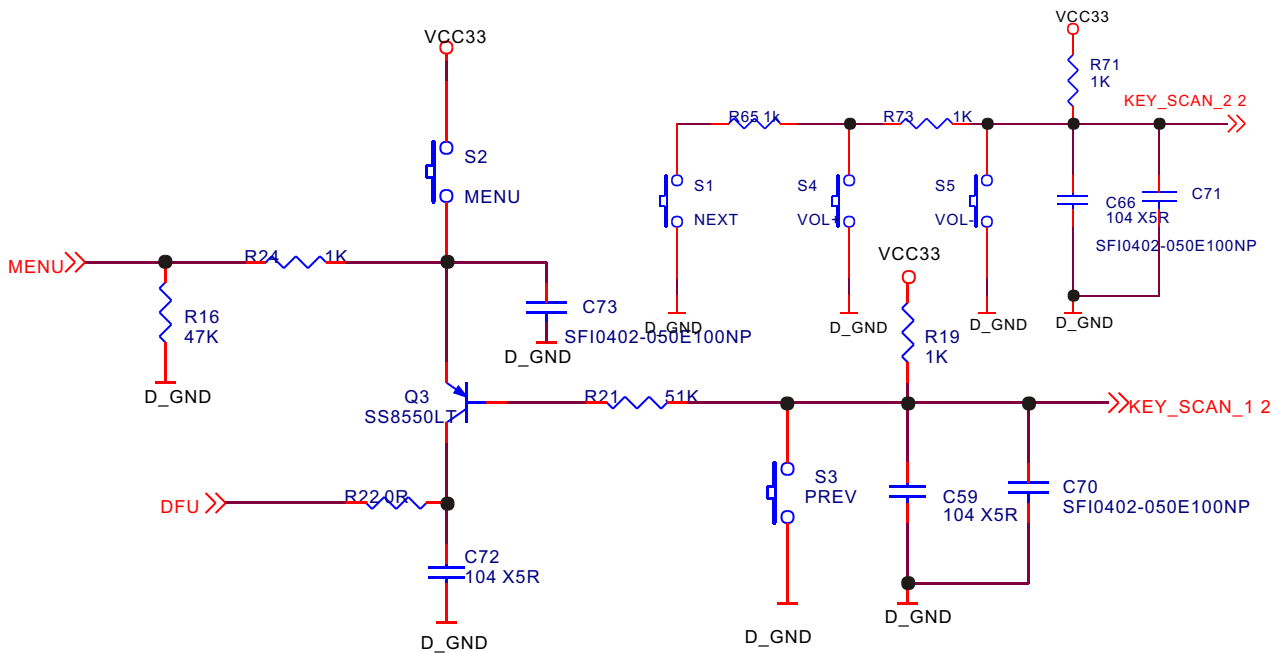

Figure 3.2.4.1 Buttons circuit schematic diagram
1. Buttons circuit is shown in the figure 3.2.4.1: